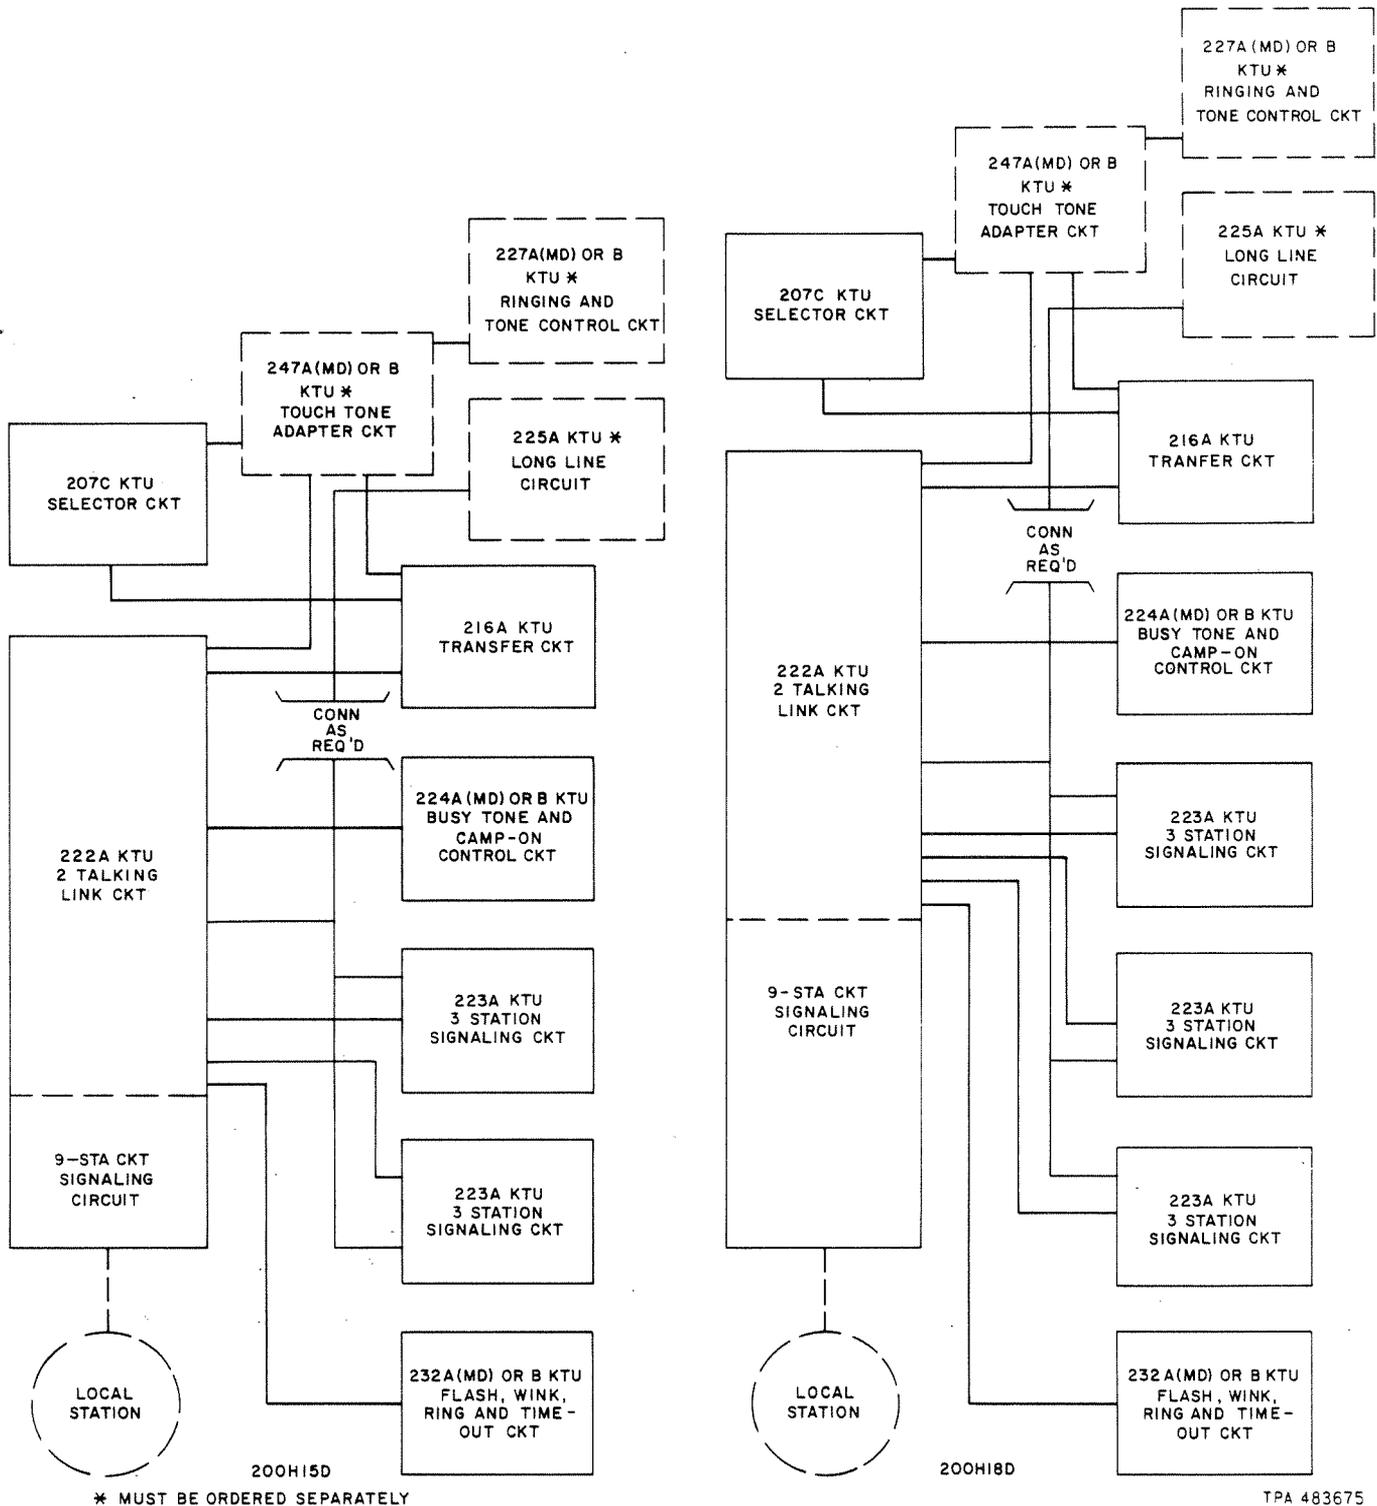

Fig. 7—200H-Type KTU, Arrangements
1.002 This addendum is issued to correct connection points of the 225A KTU in the block diagram on Fig. 7.
(a) Fig. 7—revised